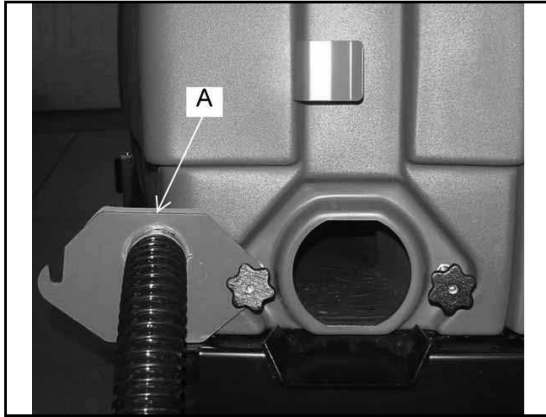
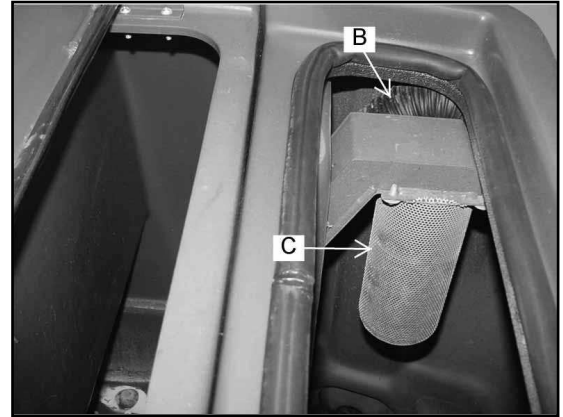

FIGURE 46
FIGURE 47
When the draining operation is complete, open the recovery tank clean out door (A) as shown in figure 46 and flush the recovery drain hose (B) as shown in figure 47 & 48. Clean the recovery tank and recovery tank screen (C) as shown in figure 47. Close the recovery tank clean out door (D), drain hose plug (E), the recovery tank lid and clip the drain hose into place as shown in figure 49.